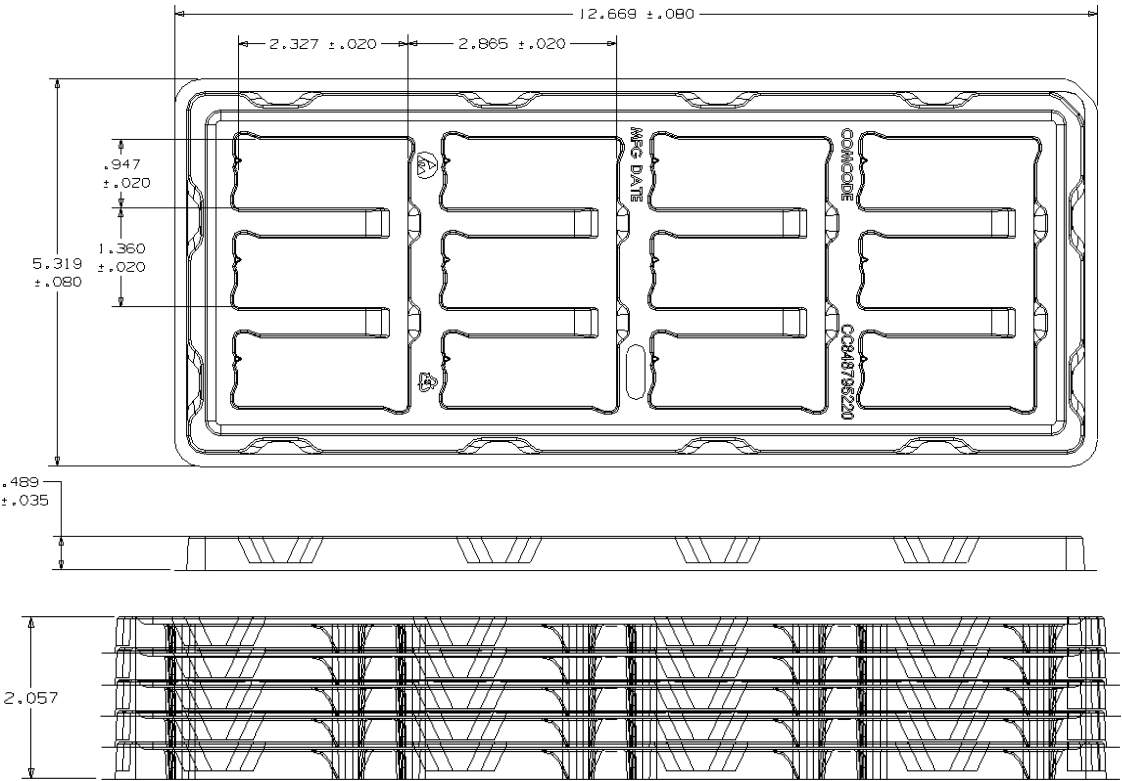

Figure 15. Surface Mount Packaging Tray.
The surface mount versions of the EQW surface mount modules (suffix –S) are supplied as standard in the plastic tray shown in Figure 15. The tray has external dimensions of 135.1mm (W) x 321.8mm (L) x 12.42mm (H) or 5.319in (W) x 12.669in (L) x 0.489in (H).